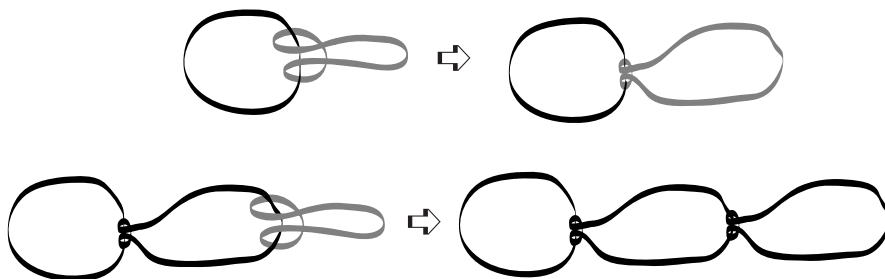

Figure 2.
2. Link two rubber bands together with a “looping knot” as shown in Figure 2.